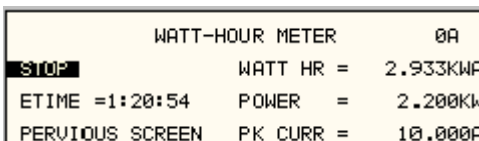

Figure 9-45: WH-Meter Screen with Function Active
1. START: This field will activate the watt-hour measurements. Moving the shuttle clockwise when the field is highlighted will activate the watt-hour function and the field will change to STOP as shown in Figure 9-45.